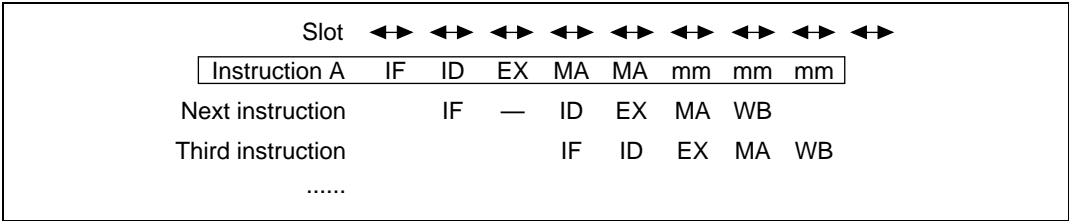

Figure 10.32 Multiplication Instruction Pipeline
The pipeline has eight stages*: IF, ID, EX, MA, MA, mm, mm, and mm (figure 10.32). The MA accesses the multiplier. The mm indicates that the multiplier is operating. The mm operates for three cycles after the MA ends, regardless of slot. The ID of the instruction following the DMULS.L instruction is stalled for 1 slot (see the description of the multiply/accumulate instruction). The two MA stages of the DMULS.L instruction, when they contend with IF, split the slot as described in section 10.2.1, Contention between Instruction Fetch (IF) and Memory Access (MA).